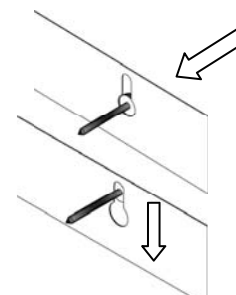

Figure 4
**STEP 3:** Position the keyholes on the back of the Mantel Shelf over the screws. Pull the Mantel Shelf downward in order to secure it in place, as shown in **Figure 4**.